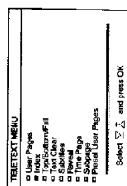

Fig. 43
- 2 Using **[Δ+]** or **[▽-]**, select the teletext function you want and press OK. (See Fig. 43).